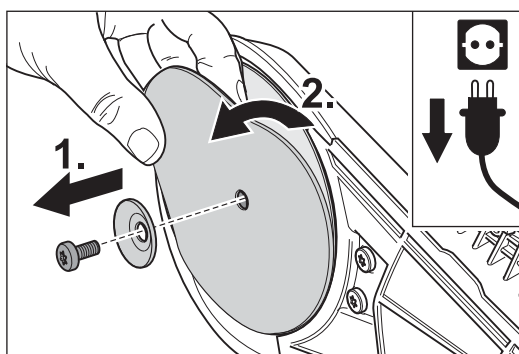

Fig. 13 Remove the screw and the paper tensioning disc (1.) and remove the sanding disc (2.).
- 5 Remove the screw and paper tensioning disc (Fig. 13, 1.). Remove the sanding disc from the sanding plate (Fig. 13, 2.) and put all three parts aside.